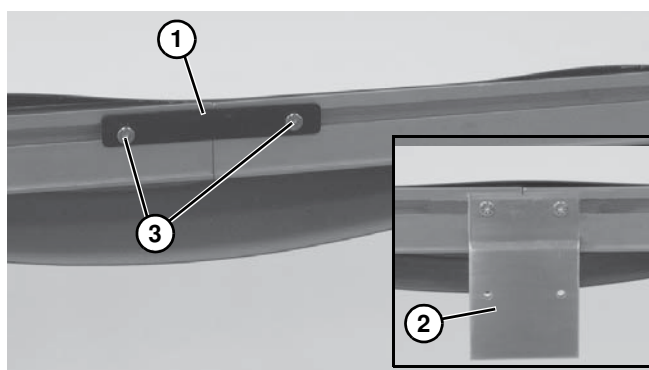

**Figure 7**
3. Roll out conveyor belt and place conveyor frame sections (**Figure 7, item 1**) into belt loop.